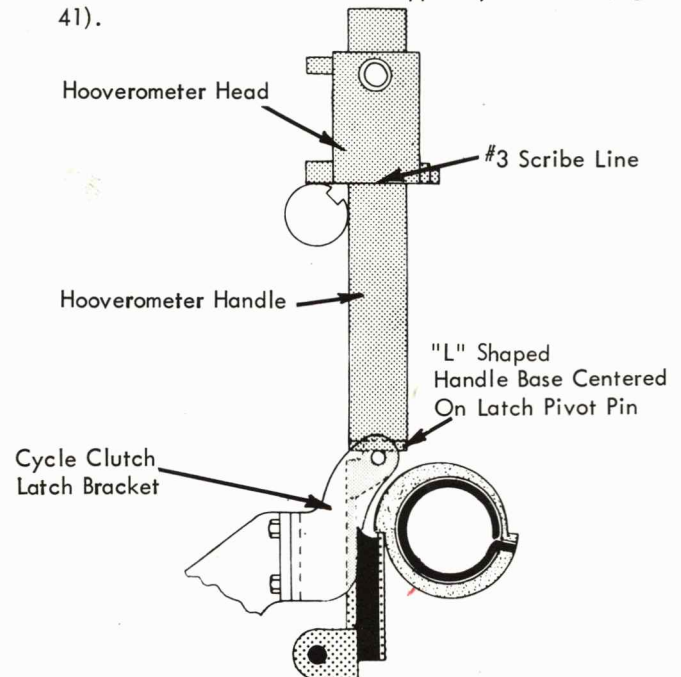

FIGURE 41. Cycle Clutch Latch Bracket Adjustment
2. Cycle Clutch Latch Bracket - Adjust the bracket vertically so that the steps of the cycle clutch sleeve are horizontal when the sleeve is stopped by the latch (Fig. 41).
When properly adjusted the top of the latch pivot pin is 1.546" below the top of the print shaft. This distance can be measured with the use of the Hooverometer. With the head of the Hooverometer set at the #3 scribe line, the head should rest on top of the print shaft with the handle touching the latch pivot pin (Fig. 41). Be sure the Hooverometer handle is vertical. It will be vertical if the base of the handle is centered over the latch pivot pin.